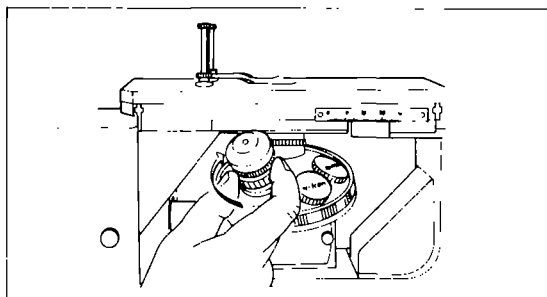

Fig. 9
7. Attaching the objectives and lamp centering tool (Fig. 9)